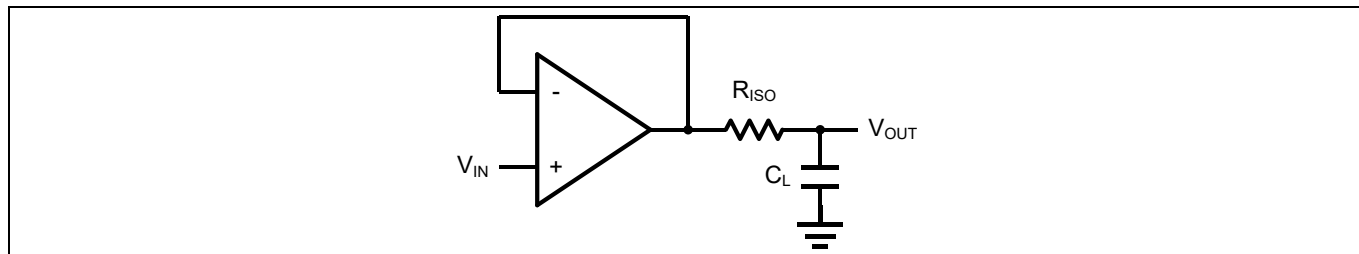
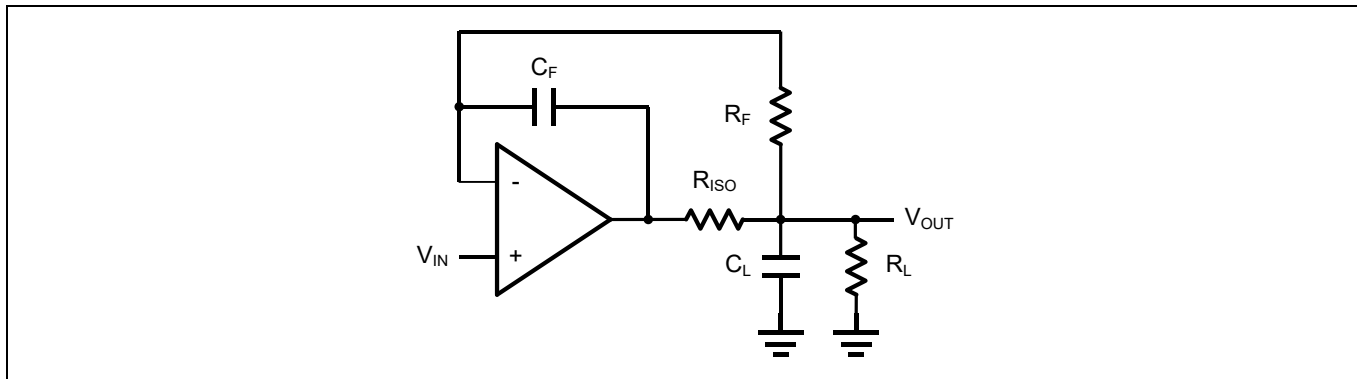

Figure 2 Indirectly Driving a Capacitive Load Using Isolation Resistor
Figure 3. Indirectly Driving a Capacitive Load with DC Accuracy
The LMV321B is optimized for bandwidth and speed, not for driving capacitive loads. Output capacitance will create a pole in the amplifier's feedback path, leading to excessive peaking and potential oscillation. If dealing with load capacitance is a requirement of the application, the two strategies to consider are (1) using a small resistor in series with the amplifier's output and the load capacitance and (2) reducing the bandwidth of the amplifier's feedback loop by increasing the overall noise gain. Figure 2 shows a unity gain follower using the series resistor strategy. The resistor isolates the output from the capacitance and, more importantly, creates a zero in the feedback path that compensates for the pole created by the output capacitance.
The circuit in Figure 3 is an improvement to the one in Figure 2.  $R_F$  provides the DC accuracy by feed-forward the  $V_{IN}$  to  $R_L$ .  $C_F$  and  $R_{ISO}$  serve to counteract the loss of phase margin by feeding the high frequency component of the output signal back to the amplifier's inverting input, thereby preserving the phase margin in the overall feedback loop. Capacitive drive can be increased by increasing the value of  $C_F$ . This in turn will slow down the pulse response.